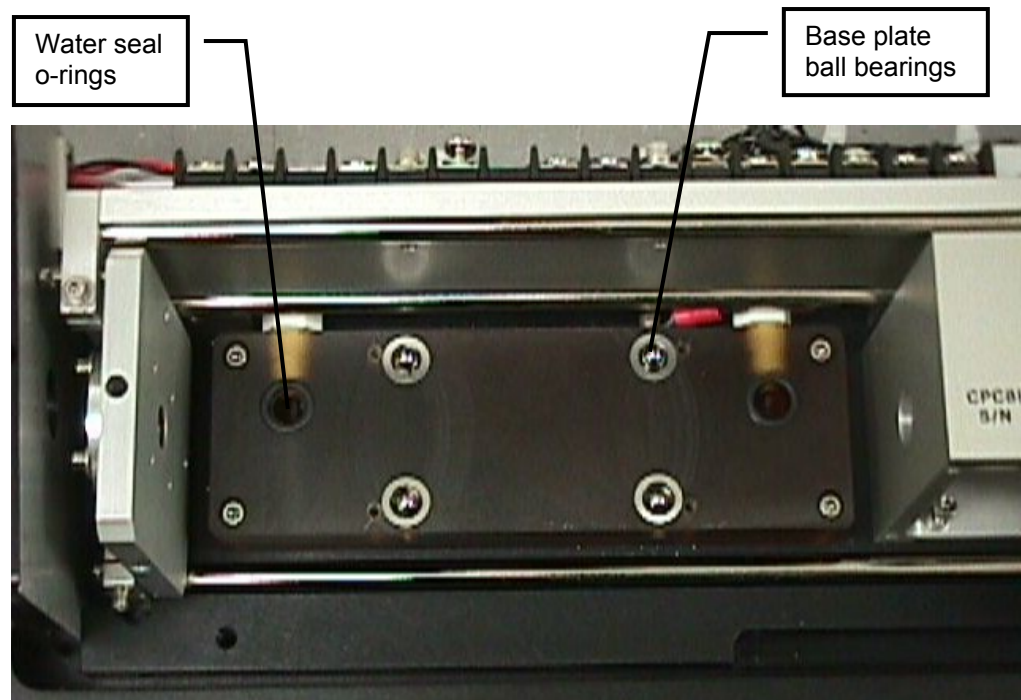

Figure 5-6. Pump Chamber Water Seal O-rings
- 10) Carefully check the two o-rings on the resonator base plate, Figure 5-6. The o-rings seal the pump chamber against water leaks. Ensure that the o-rings are in place, before replacing the pump chamber in the resonator.